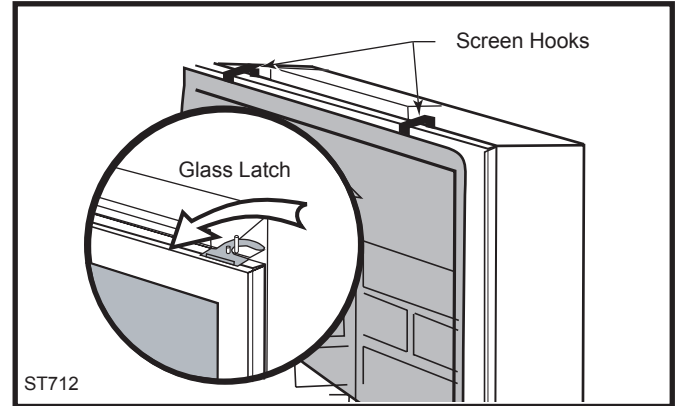

Fig. 28 Remove the screen or glass panel.
3. Remove the screen by lifting up and away from the unit. Or, if so equipped, remove the glass panel by rotating the two cams toward the front of the firebox. Lift the panel up and off of the firebox frame. (Fig. 28)